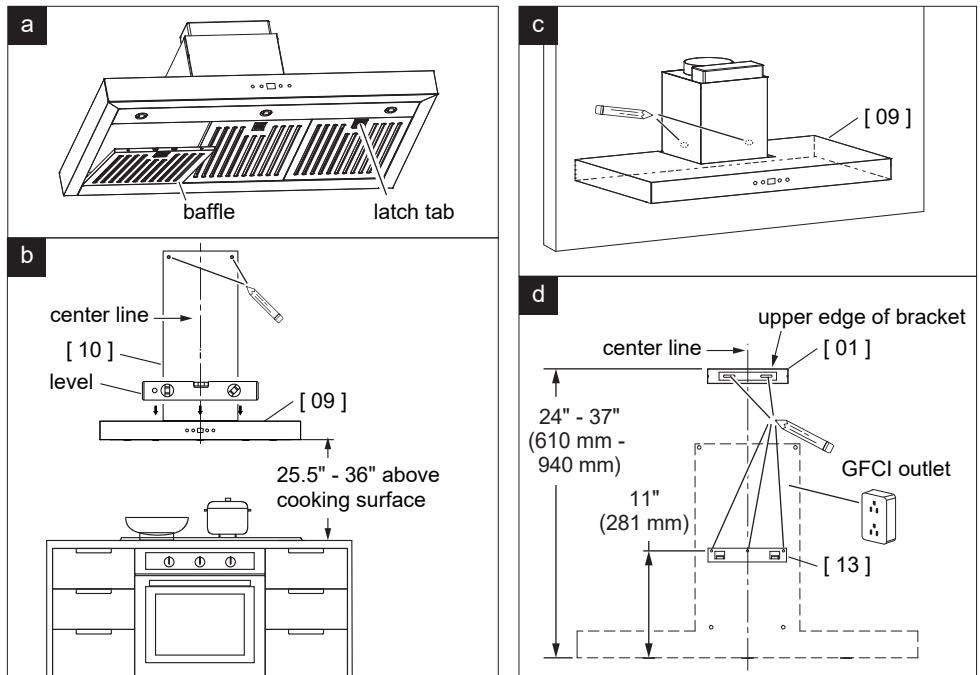

Fig 2
1. Remove the baffles from the **Range Hood [09]** by pulling down the metal latch tabs and tilting baffles downward to remove. (There are 2 baffles for RH-AZ0176PSS, 3 baffles for RH-AZ0190PSS) (Fig 2.a)
2. Position the **Range Hood [09]** to the wall and adjust it with the level. (Fig 2.b)
3. Mark the screw holes from the inside of **Range Hood [09]** on the wall as figure shows. (Fig 2.c)
4. Hold the **Range Hood [09]** still and install the **Lower Flue [10]** to it. Mark the screw holes at the top of the **Lower Flue [10]** on the wall as figure shows. Then remove the hood and flue. (Fig 2.b)
5. Draw a center line between the screw holes and up to the ceiling. (Fig 2.b)
6. Center the **Chimney Mounting Bracket [01]** with the **center line** and 24" - 37" from the bottom of **Range Hood [09]** to the upper edge of the bracket. Mark the screw holes on the wall as figure shows. Remove the bracket. (Fig 2.d)
7. Center the **Range hood Bracket [13]** with the **center line** and 11" from the bottom of **Range Hood [09]** to the center of the bracket screw holes. Mark the screw holes on the wall as figure shows. Remove the bracket. (Fig 2.d)
8. Make sure there is a **GFCI outlet** installed to the wall where it will be covered by the **Lower Flue [10]**. (Fig 2.d)